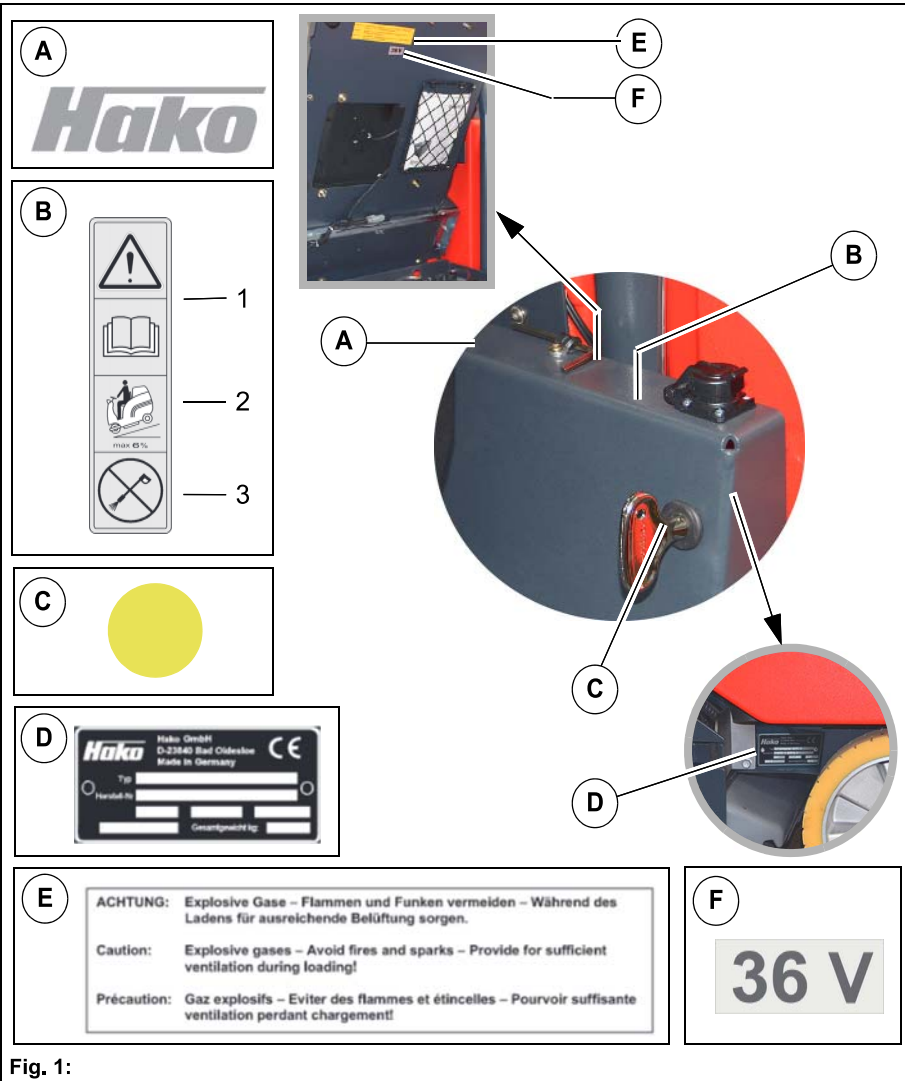
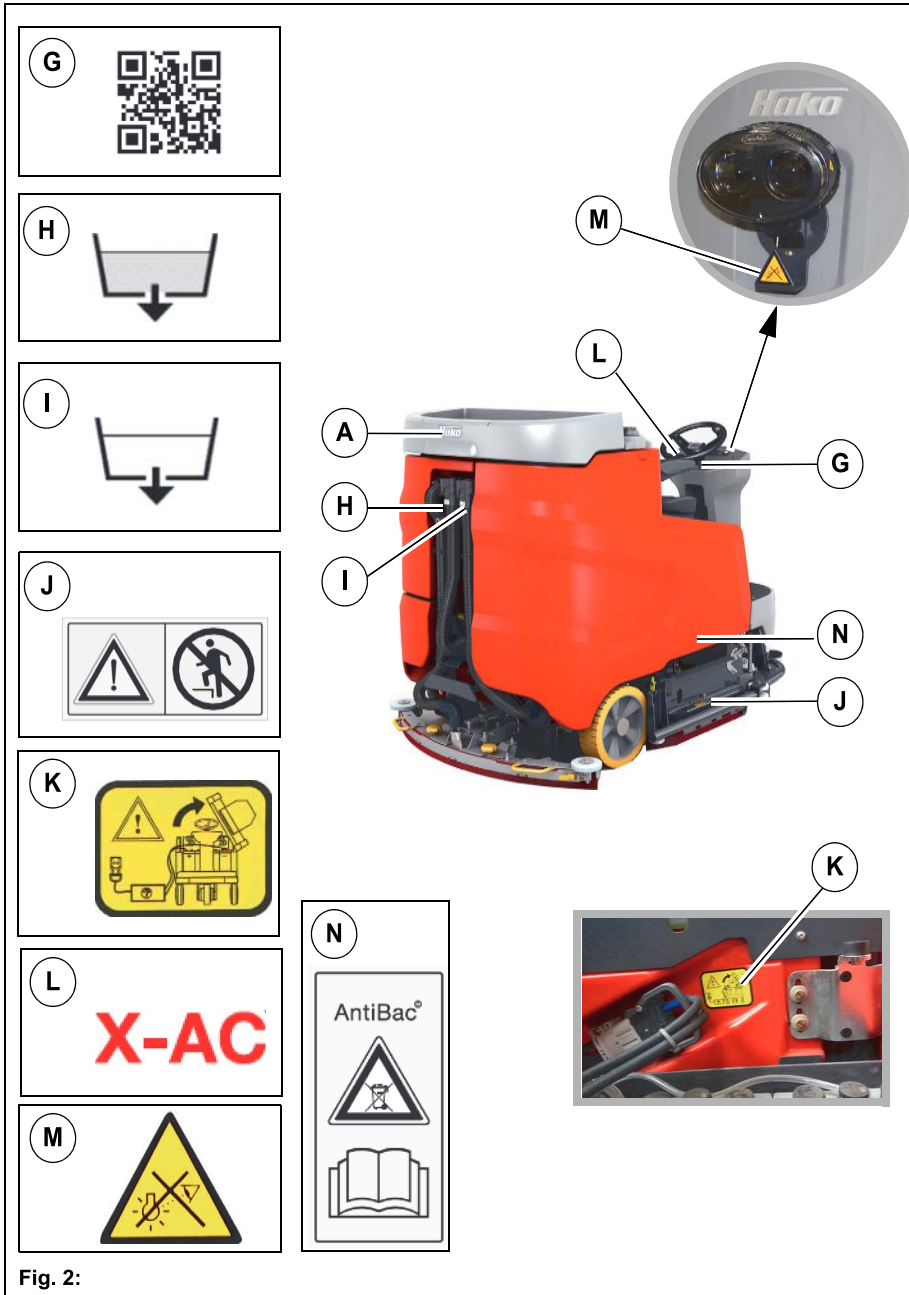

Fig. 1:
Fig. 2:
**Label – Company logo Fig. 1/ Fig. 2-A**
– **Read and observe the operating manual Fig. 1-B1**
– **Maximum permissible slope 6 % when cleaning Fig. 1-B2**
– **Never clean the machine with a high-pressure cleaner Fig. 1-B3**
**Label – Maintenance parts (yellow dot) Fig. 2-C**
**Type plate Fig. 2-D**
**Label – Explosive gases Fig. 1-E**
**Label – 36 V Fig. 1-F**
**Label – QR code Fig. 2-G**
**Label – Drain waste water Fig. 2-H**
**Label – Drain fresh water Fig. 2-I**
**Label – Keep off! Fig. 2-J**
**Label – Leave seat console open during the charging procedure! Fig. 2-K**
**Label – X-AC-drive Fig. 2-L**
**Printing – Do not dispose of AntiBac® tanks in the domestic waste! Fig. 2-N**